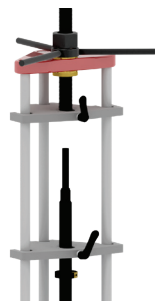

Figure 82
5.1.17 Make a reference mark on the insertion housing in line with the alignment gauge centerline (see Figure 82).
5.3.3 Slide and place a second guide plate over the end of the feed screw to keep the feed screw from spinning as you turn the Hydra-Tapper OS&Y handles (see Figure 82).